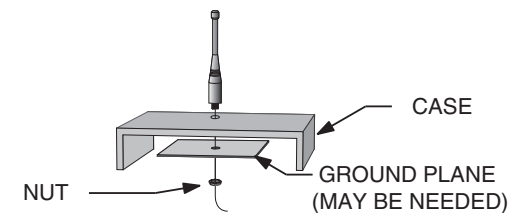

Figure 40: Remote Ground Plane
6. In some applications, it is advantageous to place the module and antenna away from the main equipment (Figure 40). This can avoid interference problems and allows the antenna to be oriented for optimum performance. Always use 50Ω coax, like RG-174, for the remote feed.